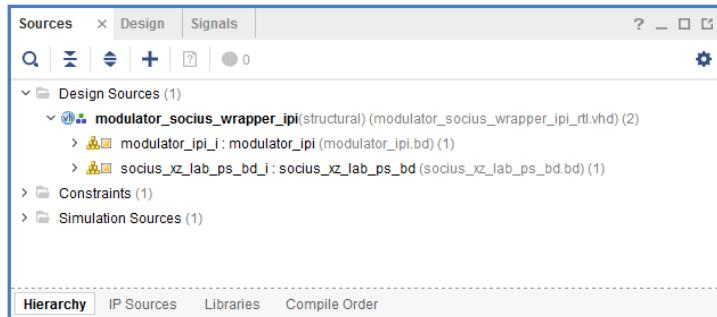

Figure 12.65: Sources window with added modulator_socius_wrapper_ipi_rtl.vhd file
33. Add created **modulator_socius_wrapper_ipi.rtl.vhd** file into our design and the **Sources** window should look the same as on the Figure 12.65.